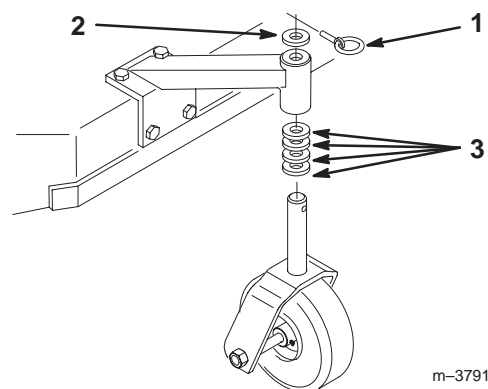

Figure 19
1. Using the Height-of-Cut Chart (on page), adjust the caster spacers to match with the axle hole selected (Fig. 19).
2. Remove the clevis pin, slide the caster from the support, and change the spacers (Fig. 19).
3. Install the caster in the support and insert the clevis pin (Fig. 19).